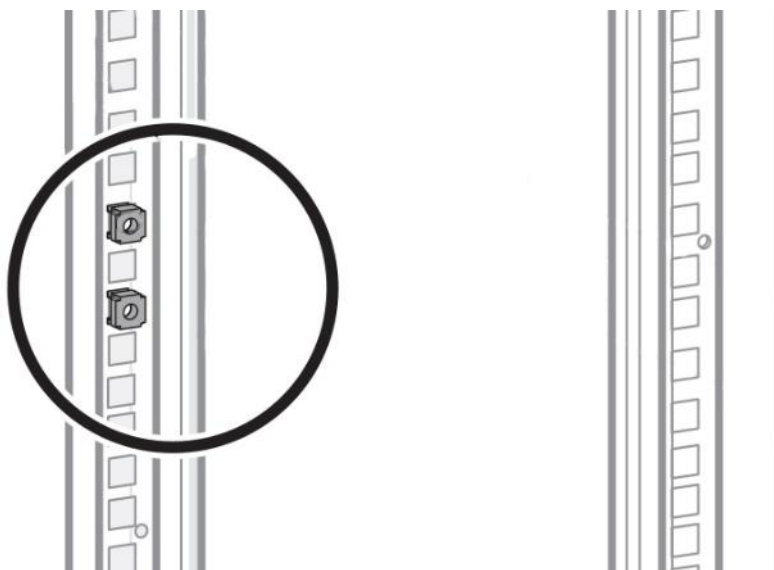

Figure 2.2.1. Inserting rack nuts.
- 1 install the rack nuts as in Figure 2.2.1;